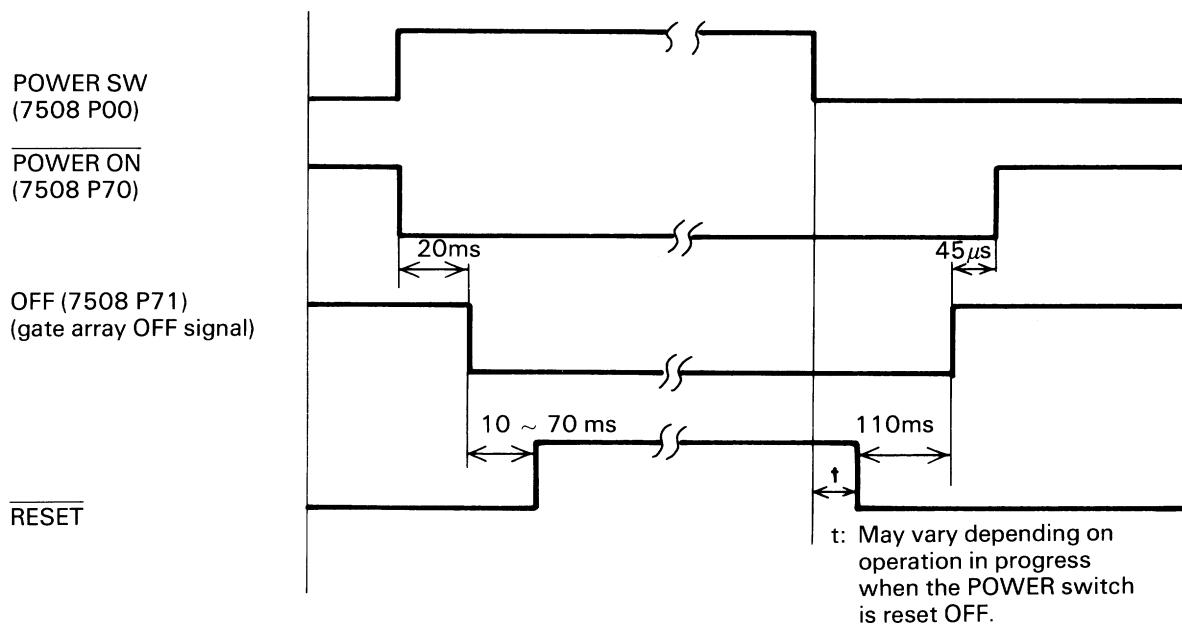

Fig. 2-5 Power On/Off Control Circuit
Power on/off has to be controlled by interrupting the sub-CPU 7508. Thus, either timing (the POWER ON or RESET signal) will be a little delayed as shown in Fig. 2-5
The time delay sequence illustrated in Fig. 2-5 above is only a sample time sequence. The power on/off operation permits any operation sequence in process, including the mechanical operation of an I/O unit (e.g., the microcassette) currently in progress, to be completed and the printer to be reinitialized before the power is off. The length of the illustrated time delay will vary according to which mechanical and/or logic sequence must be completed. The off signal is used to prevent a latch within the gate array.
- OFF signal: The OFF signal shown in Fig. 2-5 is controlled via P71 of sub-CPU 7508. This signal is emitted to gate arrays 6A and 4C, and the expansion interface CN8. It is intended to initialize the internal circuit of the gate arrays in order to prevent their outputs from being latched; it is a so called reset signal to the gate arrays and does not control power supply to the gate arrays.